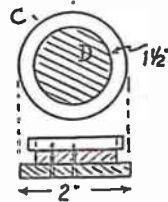

Fig. 2
A cover is now to be made to fit over the hole in the bottom of the box, the hole being, of course, for extracting the contents as wanted. For this, cut a disc (C) from the wood (Fig. 2) and a second disc (D), the latter shown shaded. The disc (C) should be accurately sawn out, and then should fit the hole in the box. Glue both discs together, and in the centre drive in a thin screw, partly. On these lay the 'cut-out' piece taken from the bottom of the box, and drive the screw home to fix all three together.